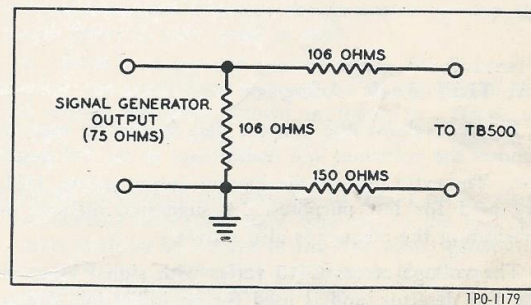

Figure 4. Aerial-Input Matching Network
through the aerial-input matching network (figure 4) to TB500. Wire the tuner for 300-ohm input.
Figure 4 shows an impedance-matching network for coupling the signal generator to the aerial-input terminals of the Receiver. This network, which is designed so that the input impedance is 75 ohms and the output impedance is 300 ohms, is used to match a 75-ohm generator to a 300-ohm aerial-input circuit. The resistors used in this network should be of carbon-composition construction, and should be chosen from a group to obtain values close to those indicated.
4. Connect the sweep generator to the 300-ohm aerial input through the aerial matching network. See figure 4.